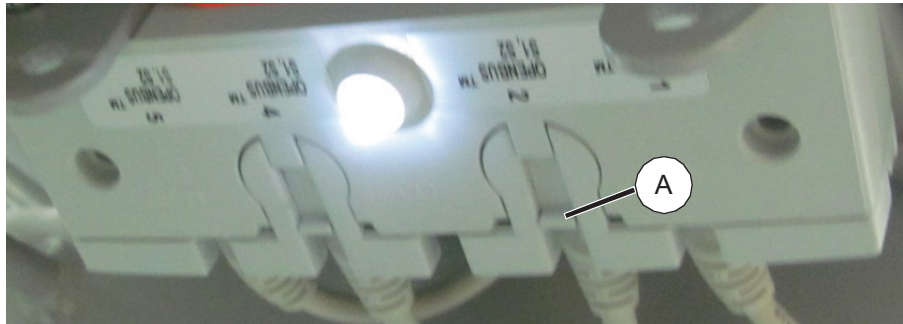

Figure 11: Deck junction box clips
- 12.1.1 Referring to Figure 11 item A, Insert a small flat bladed screwdriver into the slots on the front of the junction box (Fig 3, Item 13) to release the clips.